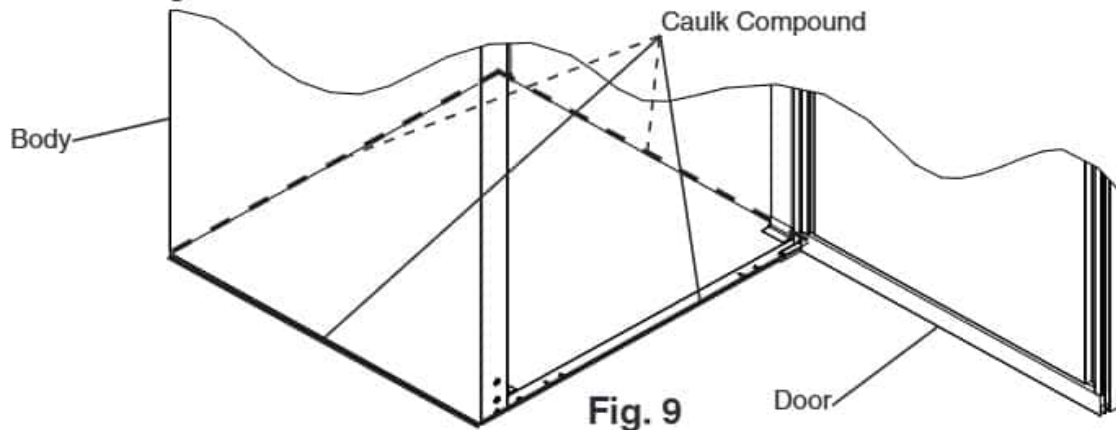

Fig. 9
- 1) Place the appliance in position, then seal the perimeter where the appliance contacts the floor with approved caulk compound in a smooth and easily cleanable manner. See Fig. 9.